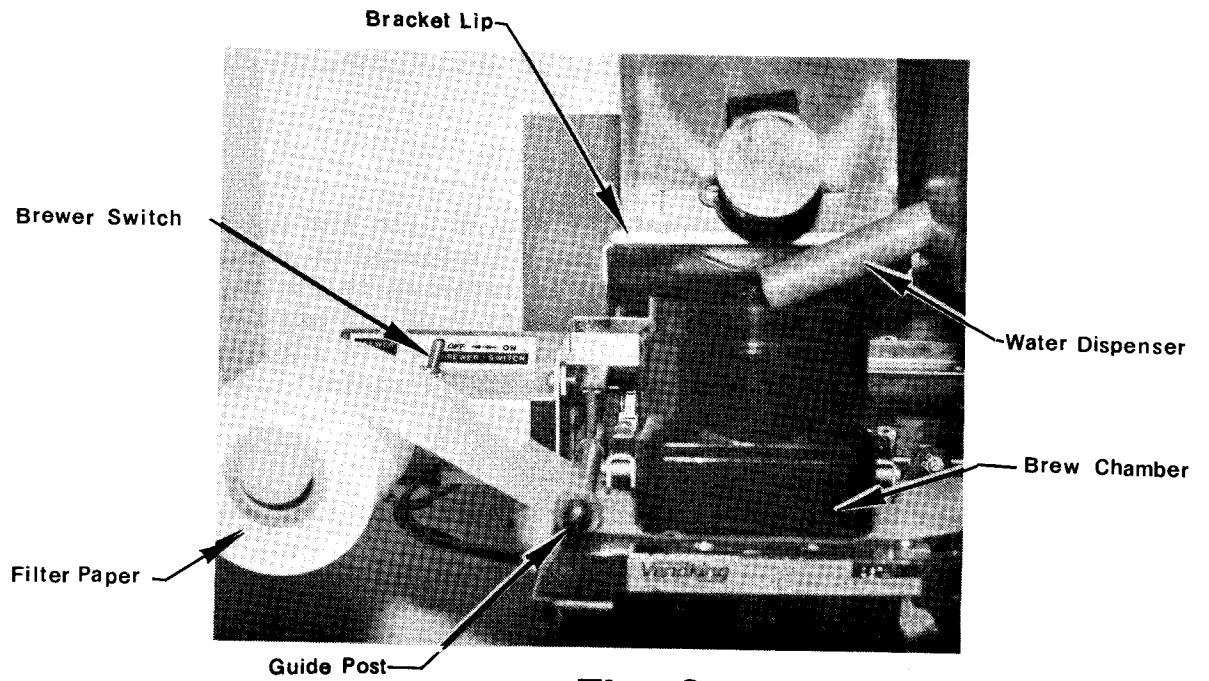

Fig. 2
- Load Filter Paper (FIGURE 2)
- Replace the filled canister in its proper position (coffee left and chocolate right) being sure that the drive yoke on the back engages with the dispenser motor shaft and the lower front of the canister is secured behind the metal lip. (FIGURE 2)